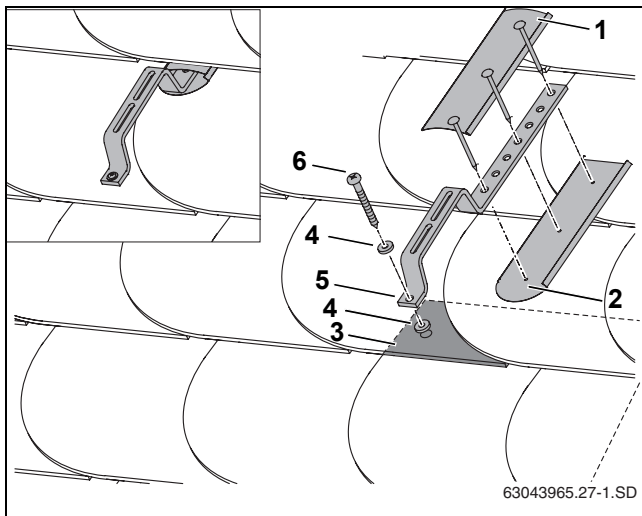

Fig. 25 Assembly for slat or batten roofs
The diagrams show the installation of a roof hook for special roofs and a sealed covering with boards to be applied by the customer (Fig. 25, [1] and [2]) on a slat or batten roof.
- ▶ Secure the special roof hooks (Fig. 25, [5]) and the insulation (Fig. 25, [4]) with the screw (Fig. 25, [6]) to the slat or batten roof.
- ▶ To ensure sealed installation, the customer should underlay the special roof hooks with boards (Fig. 25, [1] and [2]).
The special roof hook must be supported by a multiple layers (Fig. 25, [3]).